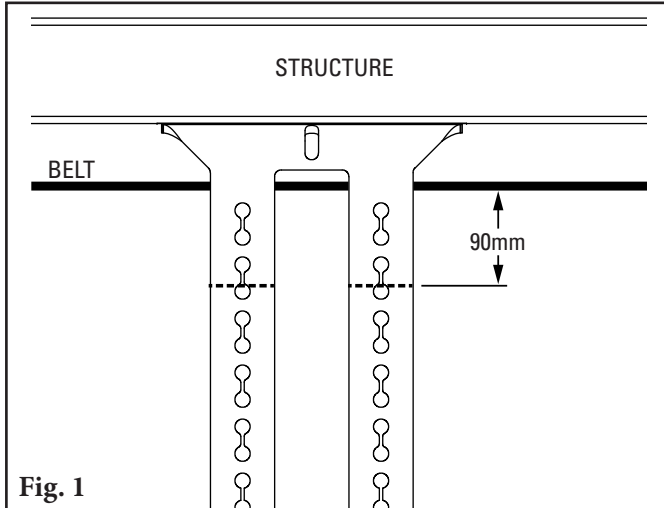

Fig. 1
- a. For push-up installation,** use a straightedge to push up against the belt to remove the slack and make a mark on the bracket for the bottom of the belt. From that mark, measure down 75mm and make a second mark (Fig. 1). The second mark is where the center of the pole should line up in Step 6.
- a. For push-up installation, use a straightedge to push up against the belt to remove the slack and make a mark on the bracket for the bottom of the belt. From that mark, measure down 90mm and make a second mark (Fig. 1). The second mark is where the center of the pole should line up in Step 6.